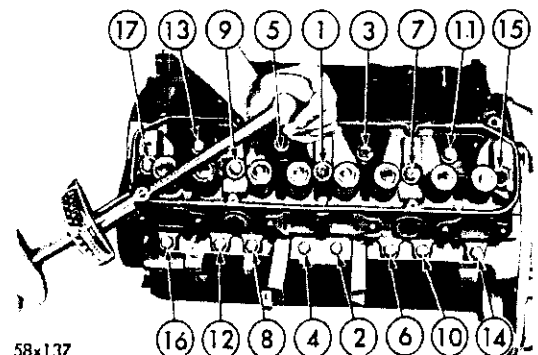

Fig. 11—Cylinder Head Tightening Sequence
(1) Clean the gasket surfaces of the cylinder block and cylinder head. Remove all burrs from edges of cylinder heads.
(2) Inspect all the surfaces with a straightedge if there is any reason to suspect leakage.
(3) Coat the new gaskets with a suitable sealer, MoPar Number 1122893. Install the gaskets and cylinder heads.
(4) Install the cylinder head bolts. Starting at the top center, tighten all cylinder head bolts to 70 foot-pounds torque in sequence, as shown in Figure 11.